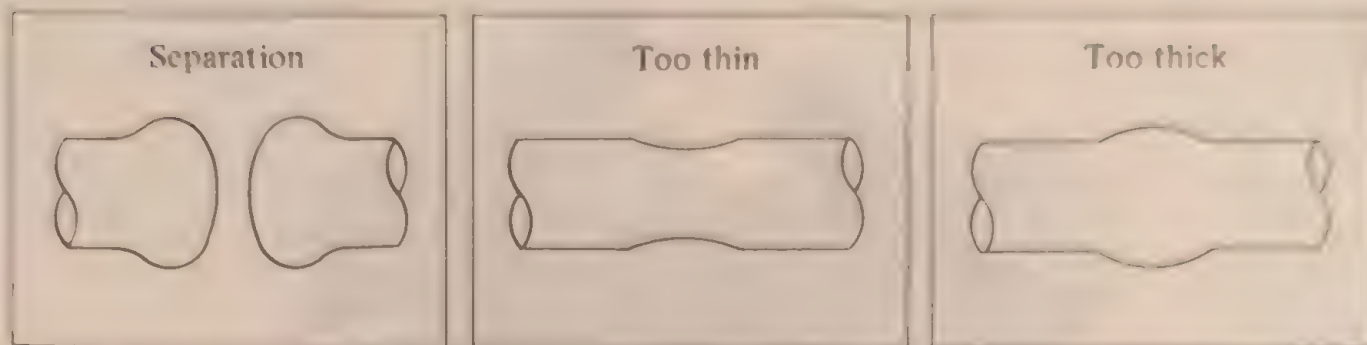

Fig. 22 Defective Spliced Results
(2) If the spliced result is like the kind depicted in Fig. 22, the steps described in Table 7 should be taken.